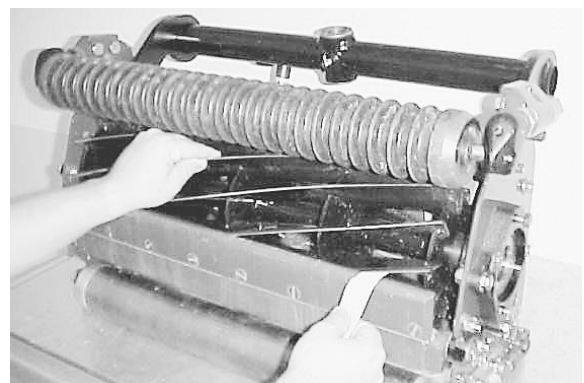

Figure 7
1. Rotate the cutting unit backward to gain access to reel and bedknife (Fig. 7).
3. Insert a 3-cm wide piece of newspaper perpendicular to the bedknife, and then turn the reel slowly in the mowing direction to see if the reel cuts the paper. Do this on both ends of the bedknife (Fig. 7).